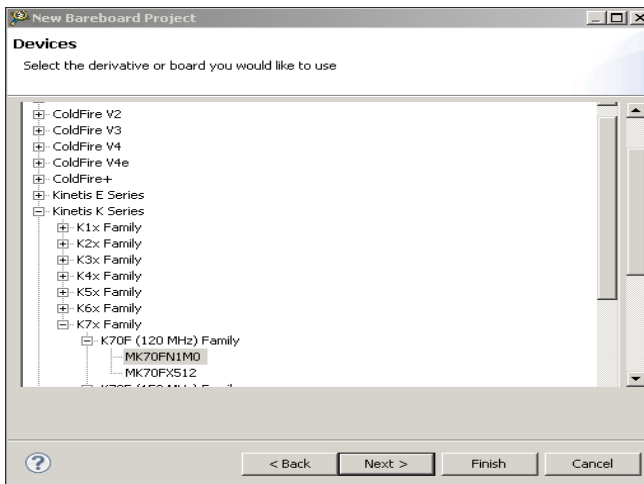

Figure 12. Choose the MCU Class
2. Choose the MCU class to be used in the tower MCU board (MK70N1M0 in this example) (see Figure 12).